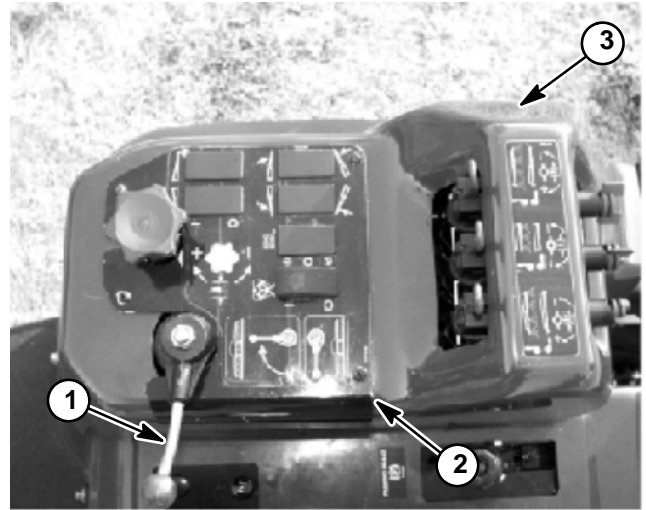

Figure 25
2. Remove master boom valve handle, spray console panel and spray console from machine (Fig. 25).
4. Install spray console, spray control panel and master boom valve handle to machine (Fig. 25).